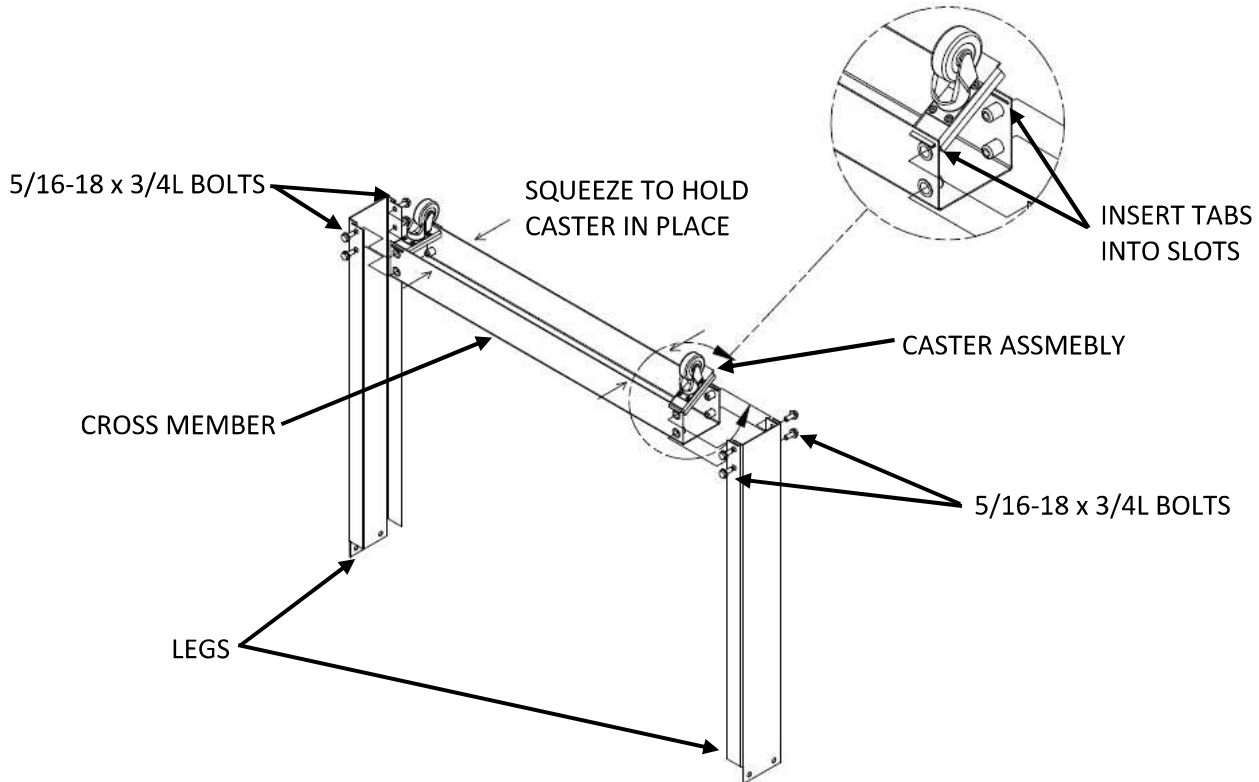

Figure 2
4. Insert the tabs on the **CASTER ASSEMBLY** into the slots on the **CROSS MEMBER FOR LEGS**, then squeeze the **CROSS MEMBER** to hold the **CASTER ASSEMBLIES** in place (see **Figure 2**).
6. Use four **5/16-18 x 3/4L BOLTS** to attach each **LEG** to the **CROSS MEMBERS** (see **Figure 2**).